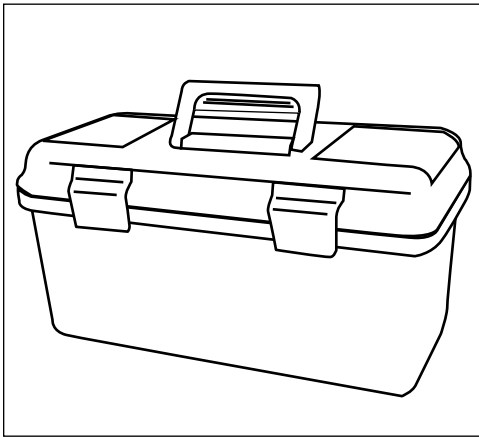

Figure 3-3:
- ✔ **Toolbox:** A toolbox or tackle box is a great way to keep your tools safe and to make them accessible. It need not be expensive, just something that can house your many tools in any orderly fashion. I use a plastic toolbox, shown in Figure 3-3, that I bought from a local hardware store. I use this to keep pens, scissors, brushes, and other bits and pieces in. I like the type that opens out to reveal several trays. These trays let you keep all your different tools separate and organized.